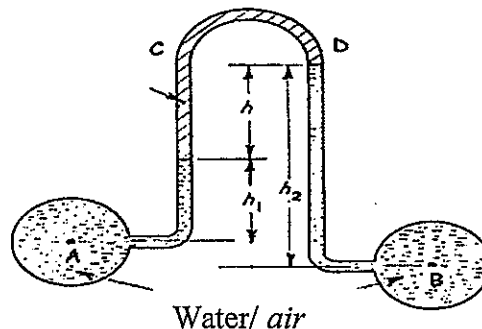

Figure 3/ Rajah 3
- c) An inverted U- tube manometer in **Figure 3** is filled with mercury in a u-tube and water in pipe A and B. Calculate the pressure difference A and B if $h = 80 \text{ cm}$, $h_1 = 70 \text{ cm}$ and $h_2 = 165 \text{ cm}$. Given the $s_{\text{HG}} = 13.6$